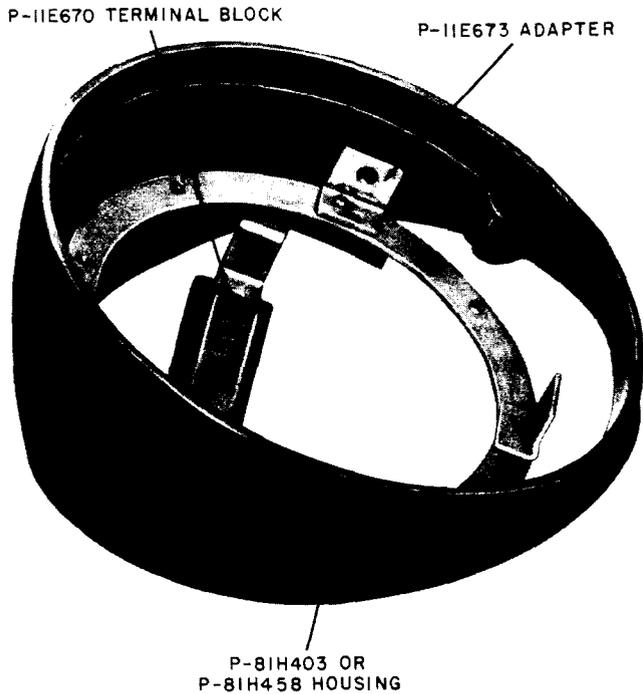

Fig. 2—46A Dial Mounting
**2.09** The 46A dial mounting (Fig. 2) consists of a plastic housing, adapter, and terminal block and is arranged for mounting a 9K dial at a 24 degree angle.